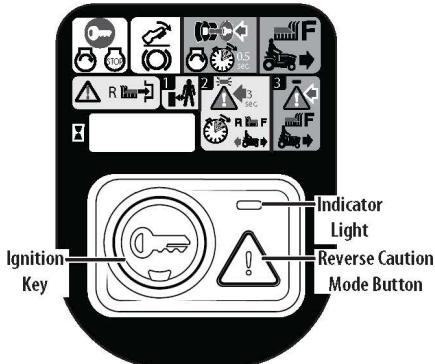

Figure 27
- Press the REVERSE CAUTION MODE button and hold for 3 seconds. The indicator light will flash for 3 seconds and will stay on when the REVERSE CAUTION MODE is activated (Figure 27).
- The indicator light above the REVERSE CAUTION MODE button will be ON while activated (Figure 27).